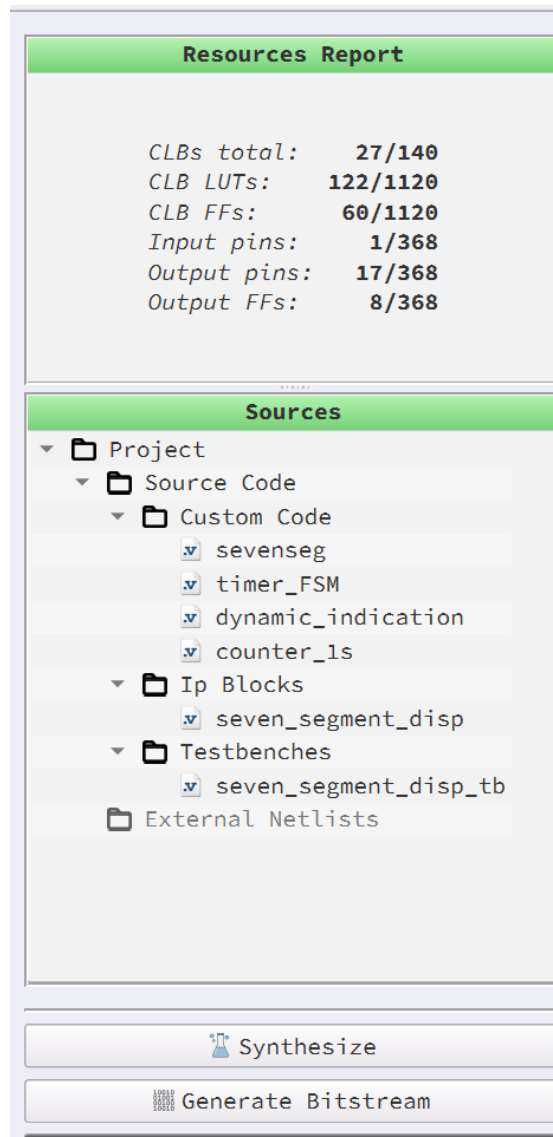

Figure 4: File structure and resources used
4. Open the FPGA editor and review the Verilog code. There is a main code with the module name `seven_seg_counter`, which is the top module defining the whole design. There are 3 sub-modules designed in this example along with an IP Block. All these sub-modules are integrated together to form the top module as function as intended (see Figure 4 for structure).